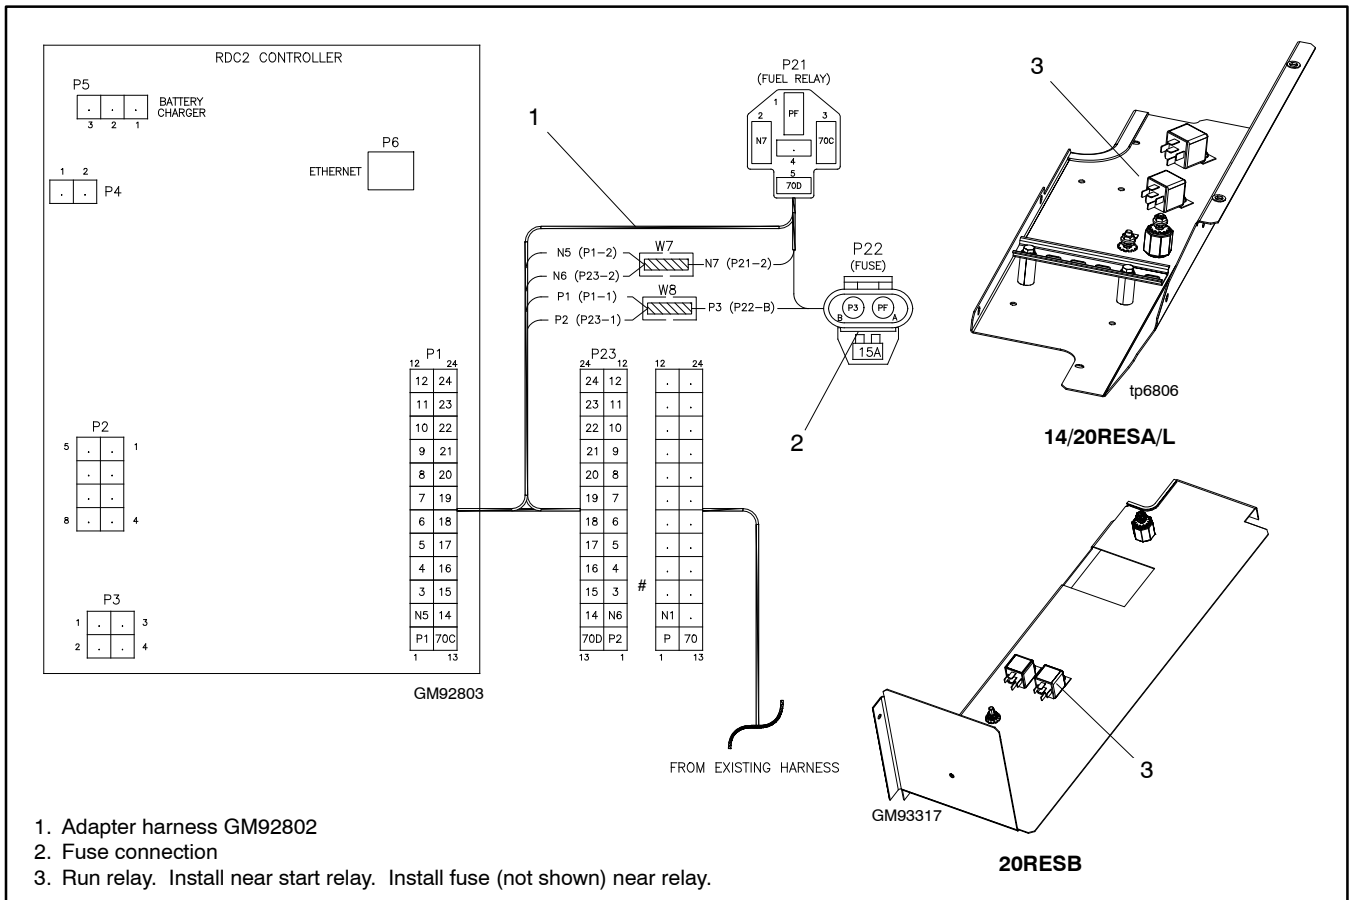

Figure 4-12 Relay and Adapter Harness (for replacing original controller with revised controller only)
- a. Use the hardware provided in the relay kit to install the new run relay in the trough under the controller, near the existing relay. See Figure 4-12.